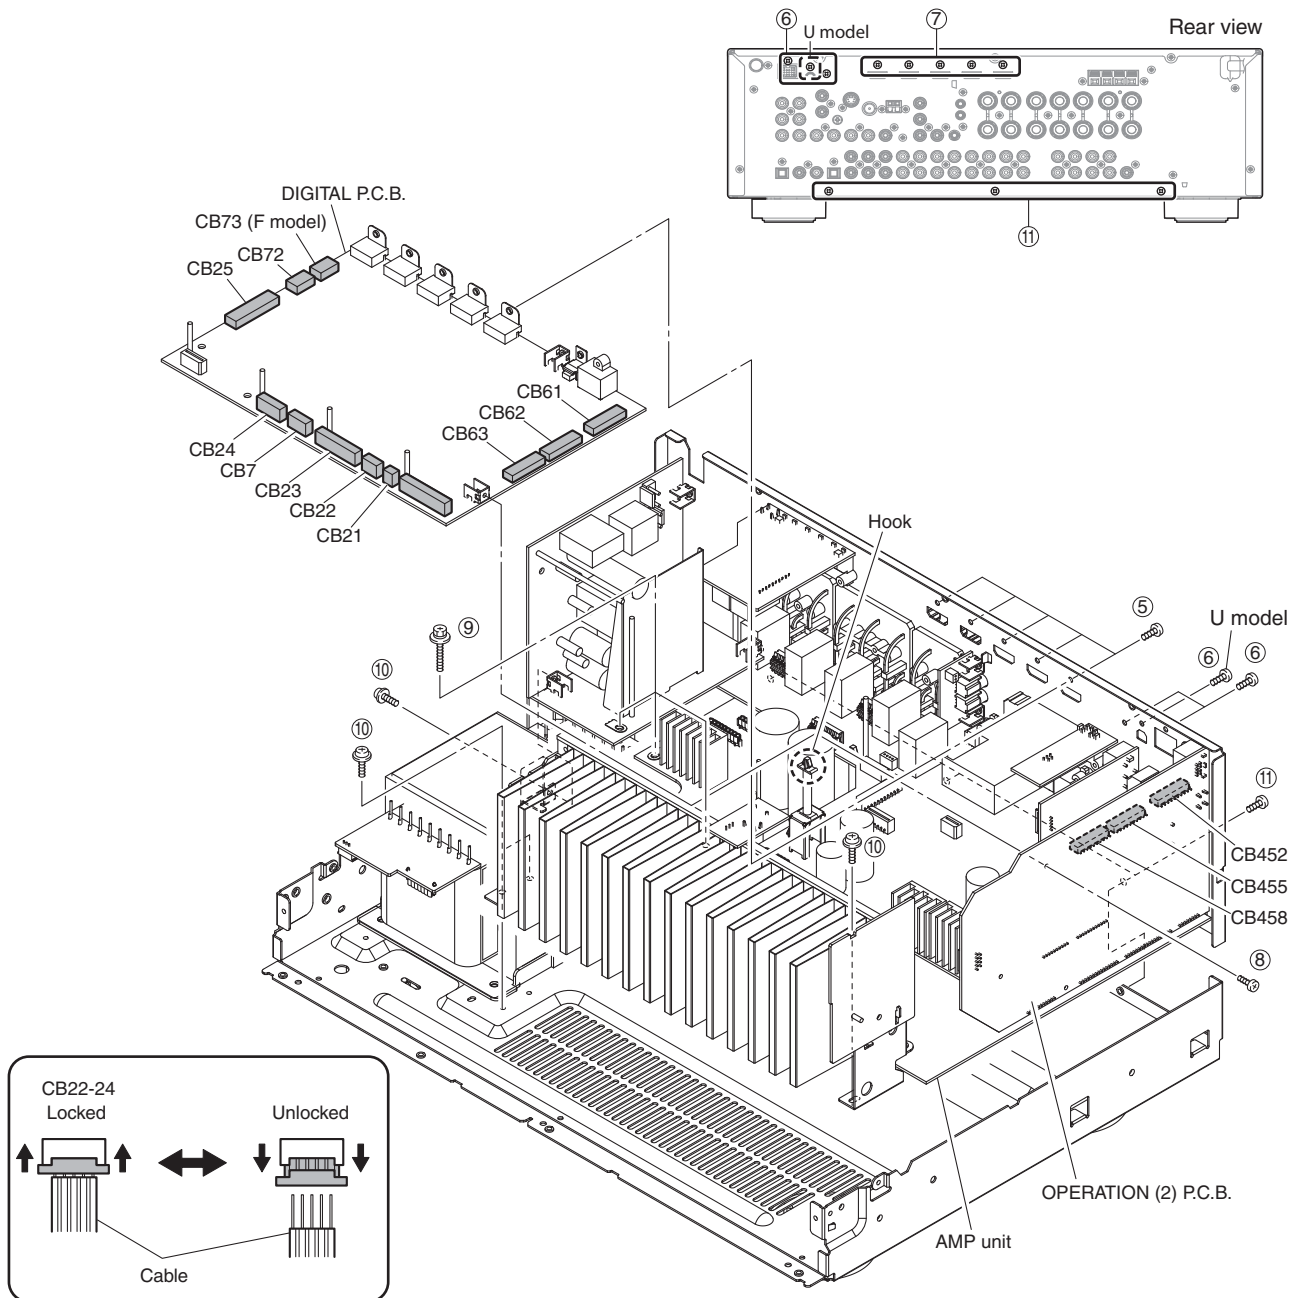

Fig. 2
- a. Remove 3 screws (U model) / 2 screws (C, R, A, F, L models) (⑥) and 5 screws (⑦). (Fig. 2)
- b. Remove screw (⑧). (Fig. 2)
- c. Remove CB7, CB21, CB25, CB27, CB72 and CB73 (F model). (Fig. 2)
- d. Unlock and remove CB22-24. (Fig. 2)
- e. Release hook. (Fig. 2)
- f. Remove the DIGITAL P.C.B. which is connected directly to the OPERATION (2) P.C.B. with board-to-board connectors. (Fig. 2)
- a. Remove 3 screws (⑨) and 4 screws (⑩). (Fig. 2)
- b. Remove 3 screws (⑪). (Fig. 2)
- c. Remove the amp unit. (Fig. 2)